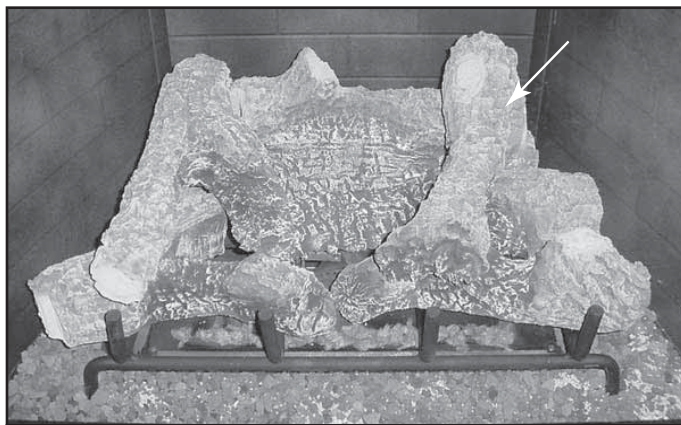

Figure 15.4 Placing Right Top Log
- Install right top log as shown in Figure 15.4 using locating pins to position log properly.